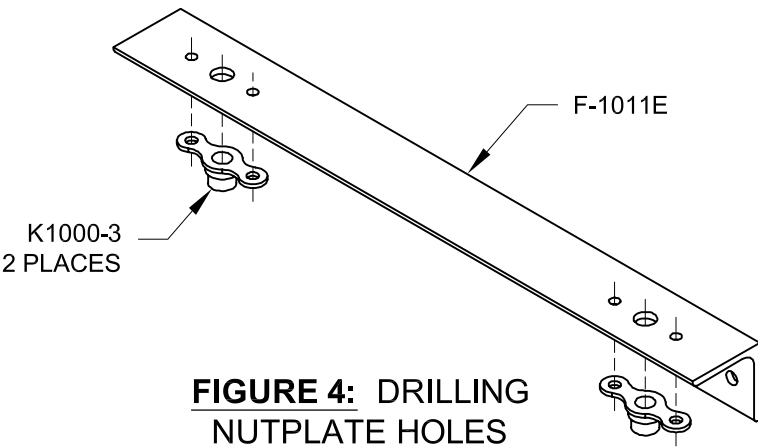

FIGURE 4: DRILLING NUTPLATE HOLES
Step 5: Match-Drill the nutplate rivet holes into the F-1011E Rudder Cable Angle as shown in Figure 4. The nutplates can be temporarily held in place with AN3 bolts while the holes are drilled. Match-Drill one rivet hole and cleco it before drilling the second. This will prevent the nutplate from rotating before the second hole is match-drilled.